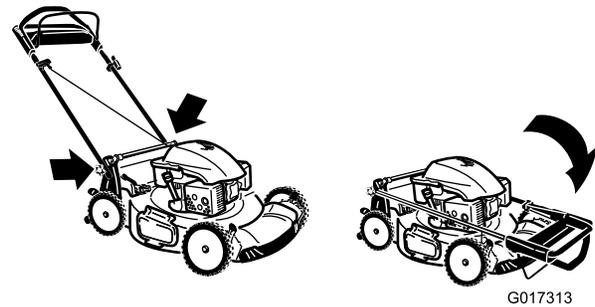

Figure 34
3. Fold the upper handle forward as shown in Figure 34.